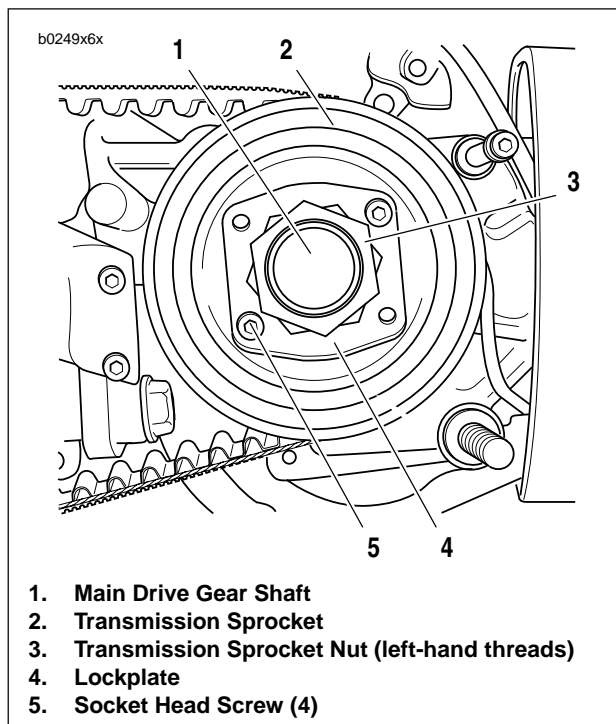

Figure 6-27. Transmission Sprocket
7. See Figure 6-27. Place transmission in first gear. Remove four socket head screws (5) and lockplate (4).